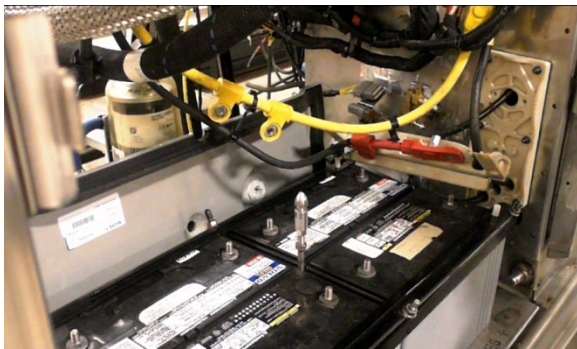

FIGURE 50
4. Put the whole battery cable arrangement aside (FIGURE 50).